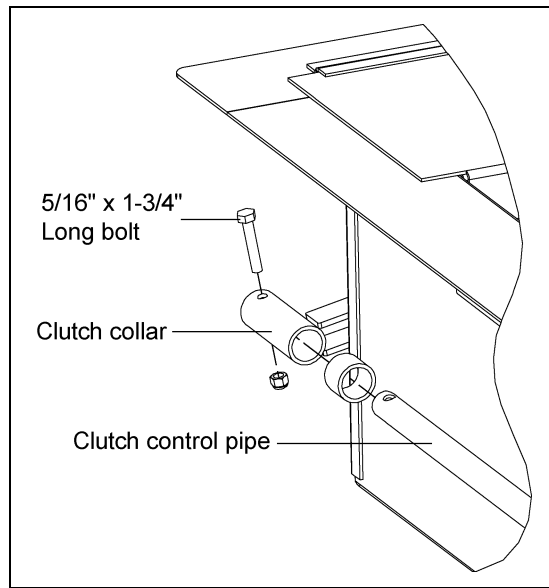

Figure 4S
2. Bolt the clutch control pipe to the collar on the center well using a 5/16" x 1-3/4" long bolt and lock nut. (See Figure 4S.)